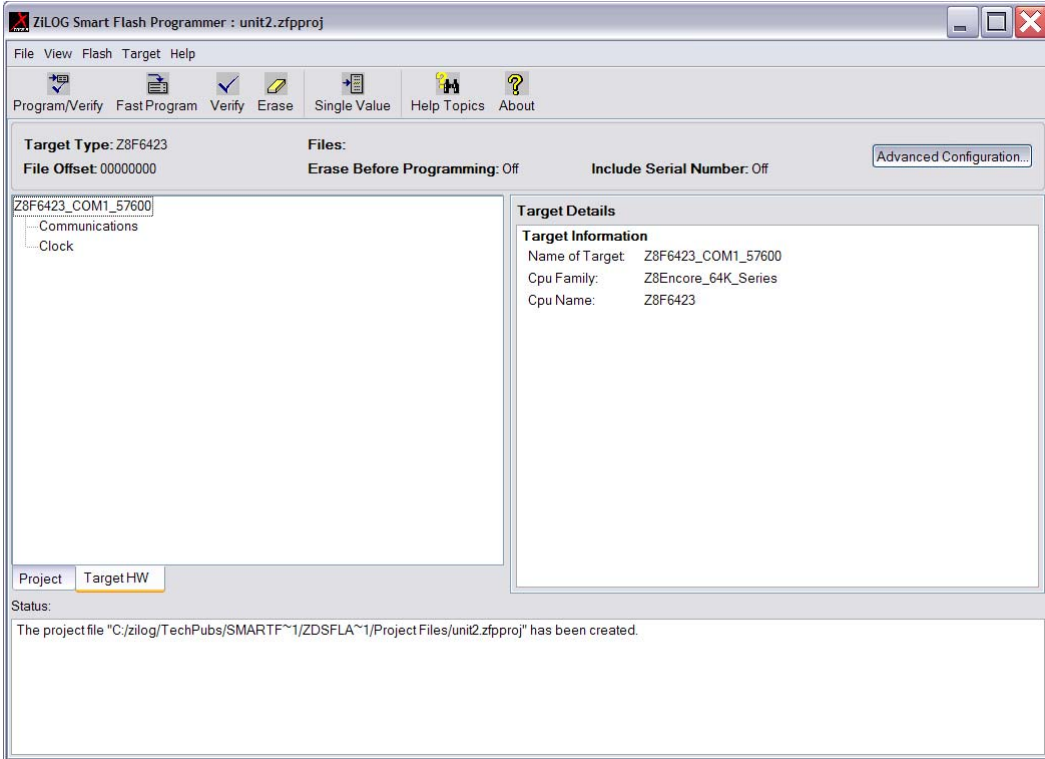

Figure 13. Smart Flash Programmer – Advanced Configuration Window, Target HW Tab
- 8. Click the Target HW tab in the Advanced Configuration window. The Advanced Configuration window displays target information (Figure 13).